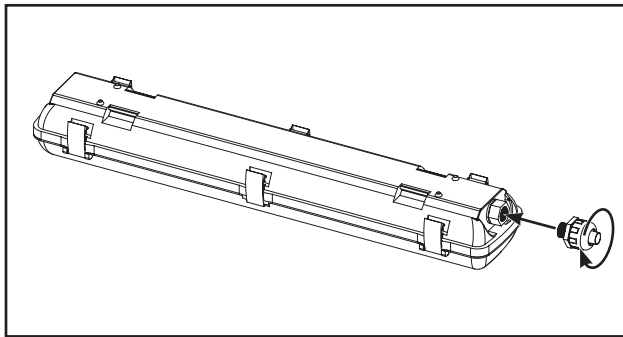

Figure 1.
2. Thread 1/2" water tight conduit fitting (customer supplied) into universal hub on end of luminaire. (Figure 1)